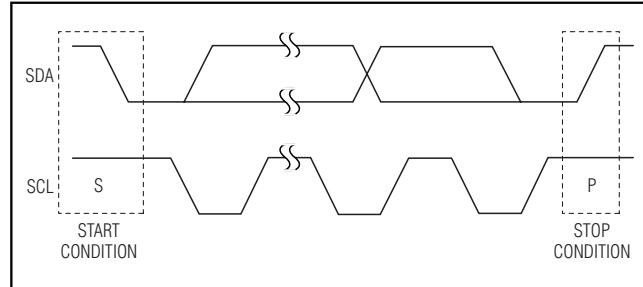
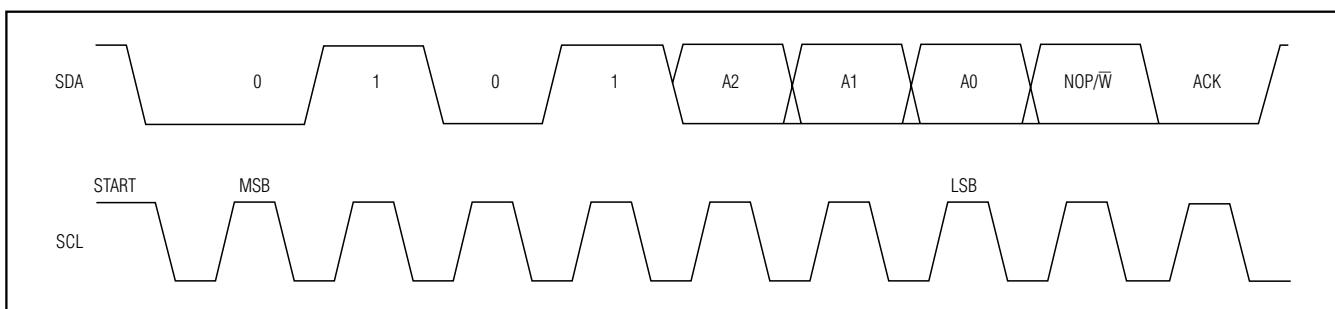

Figure 3. Start and Stop Conditions
Figure 4. Slave Address
Each transmission consists of a START (S) condition (Figure 3) sent by a master, followed by the MAX5477/MAX5478/MAX5479 7-bit slave address plus the NOP/W bit (Figure 4), 1 command byte and 1 data byte, and finally a STOP (P) condition (Figure 3).
communicating with the slave. The bus is then free for another transmission (Figure 3).
The MAX5477/MAX5478/MAX5479 have a 7-bit-long slave address (Figure 4). The 8th bit following the 7-bit slave address is the NOP/W bit. Set the NOP/W bit low for a write command and high for a no-operation command.